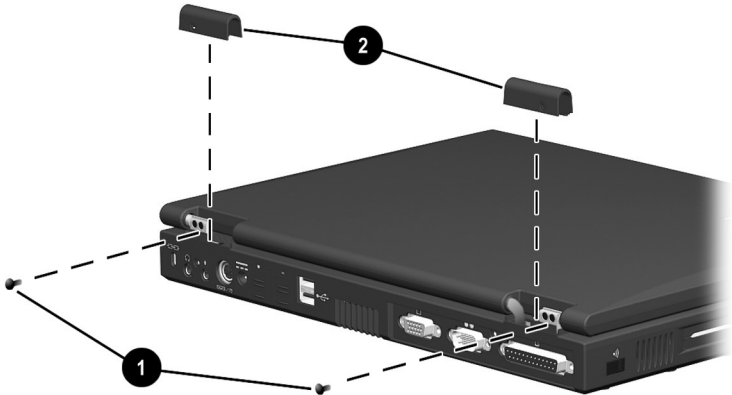

Figure 5-9: Removing the Hinge Covers
4. Remove the two M2.5 × 4.5 screws securing the hinge covers to the display hinges ❶ (Figure 5-9).
5. Lift the hinge covers straight up to remove them ❷.